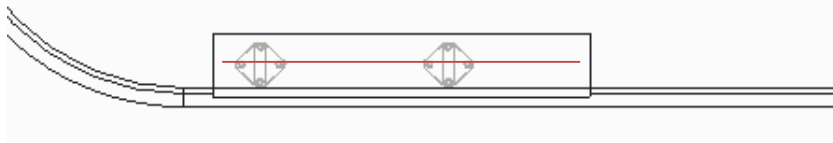

Figure 8
- D. Align the four hardtop bracket groups and center the mounting holes onto the lines marked on the tape from step 4B. See Figure 5, Figure 6, Figure 7, Figure 8.